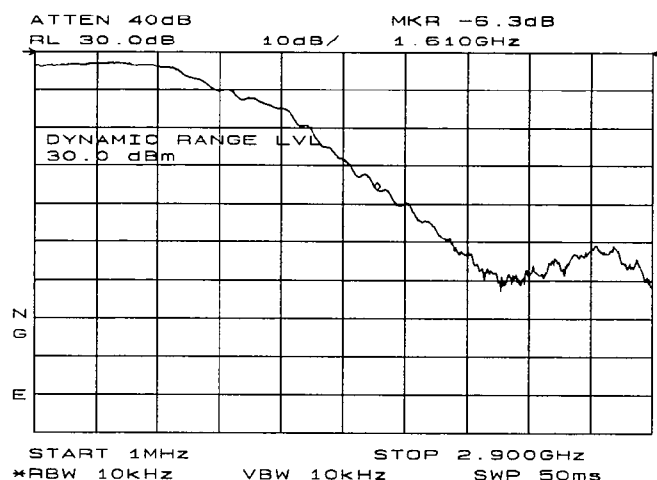

Figure 3-29. **RANGE LVL adjusts analyzer settings for compression-free measurements.**
After returning the **NORM REF LVL** to 0 dB, increase **RANGE LVL** to 30 dB. As shown in Figure 3-29, the trace moves fully within the graticule. Again, note the following three instrument parameters: (1) the input attenuator value has changed to 40 dB, (2) the marker-amplitude readout displays -6.3 dB, and (3) the **ERR 903 A>DLMT** error message no longer appears.